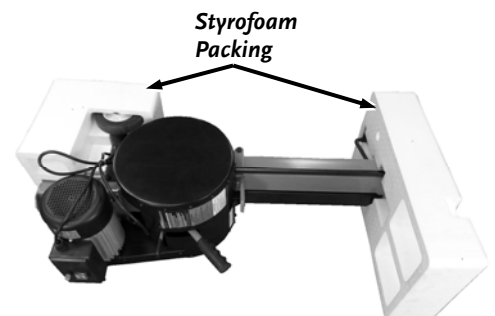

Figure 3
5. Remove the Styrofoam Packing from both ends of the Splitter (**Figure 3**).